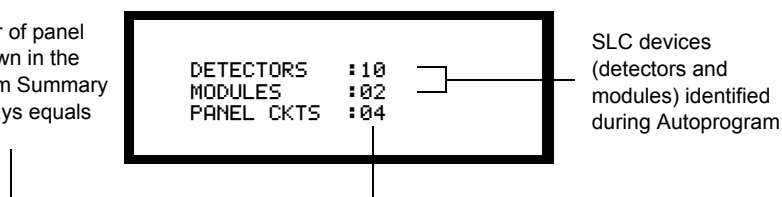

Figure 58 Sample Autoprogram Summary Screen
5. Continue displaying and acting on each device. When the control panel completes displaying new devices, the Autoprogram Summary screen is displayed. The Autoprogram Summary screen—see Figure 58—displays the total number of detectors, modules, and panel circuits connected to the control panel.